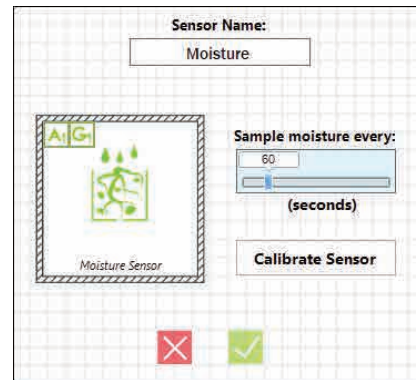

Figure 3 - Moisture Sensor Sampling Time Configuration
- The moisture sensors aren't powered by default, SoilBot will only power them up momentarily whenever a measurement is taken. This behavior prevents corrosion on the sensors and possible interference with the plants' roots. The time interval between measurements can be defined for each sensor in the respective configuration menu (Figure 3), from one minute to one hour.